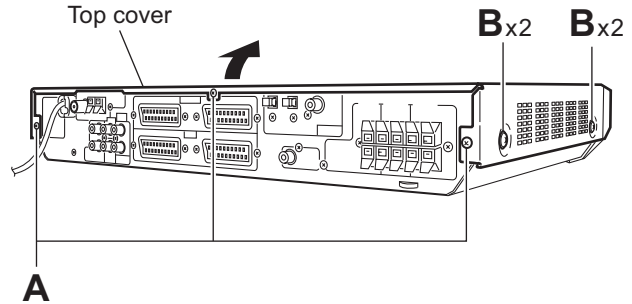
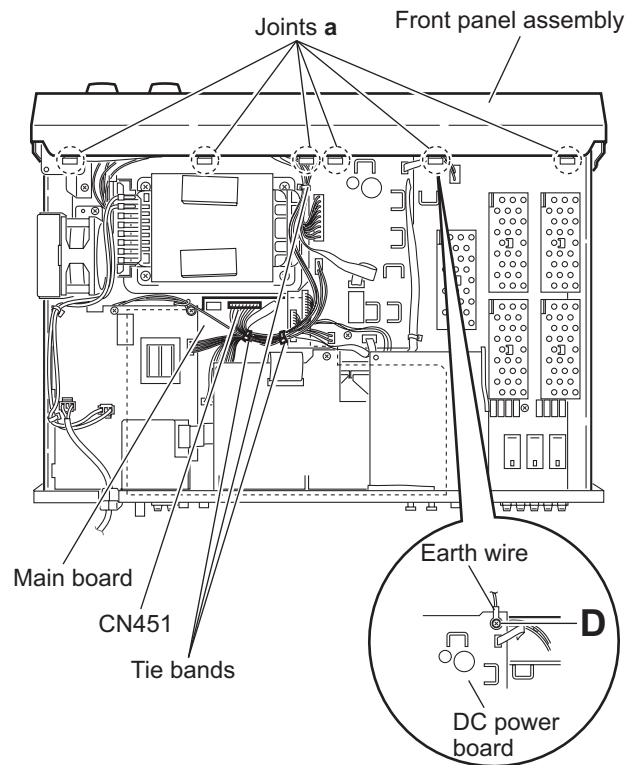

Fig.1
Fig.2
(See Figs.1 and 2)
- (1) From the back side of the main body, remove the three screws **A** attaching the top cover.(See Fig.1)
- (2) From the both sides of the main body, remove the four screws **B** attaching the top cover.
- (3) Remove the top cover by moving up the back part of the top cover and release the six joints **a** using a longer driver from the inside. (See Fig.2.)
(See Figs.2 to 4.)
- (1) From the top side of the main body, cut the tie bands and disconnect the wire from the connector CN451 on the main board. (See Fig.2.)
- (4) From the top side of the main body, remove the screw **D** attaching the earth wire on the DC power board. (See Fig.2.)